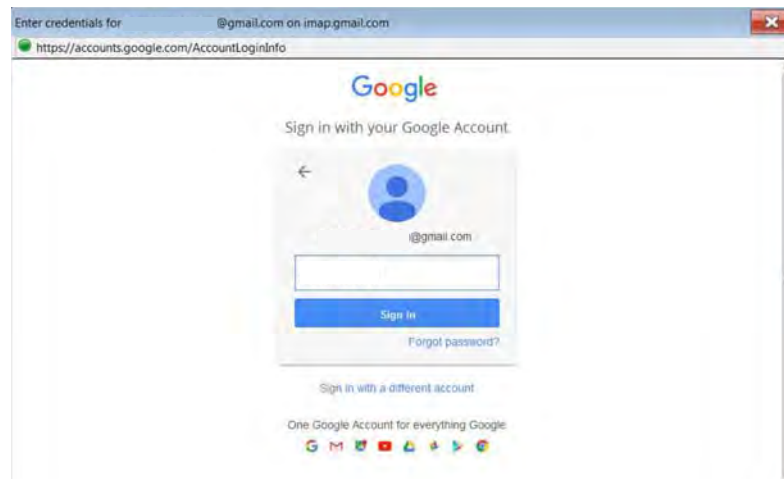

Figure 11-14
6. If your existing email provider login screen displays, enter your email address and password to allow the client to continue the setup with your provider (Figure 11-14).